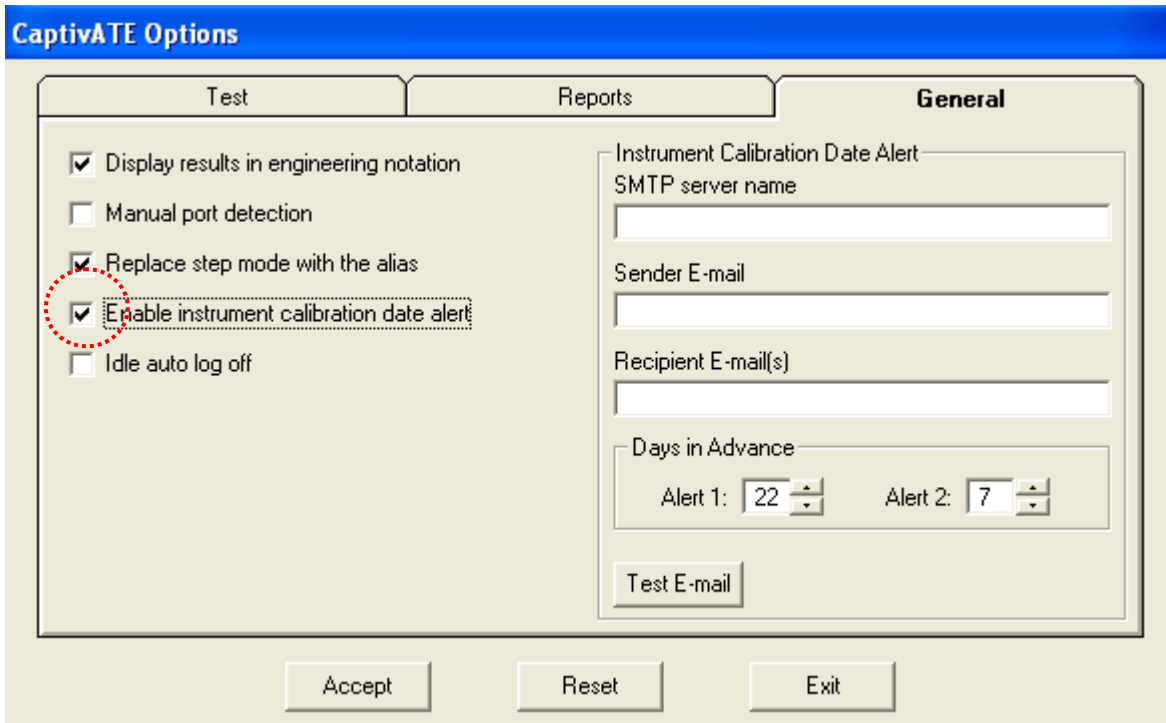

Figure 15 Enable Instrument Calibration Alert
1. Click *Tools/Options/General* to display the screen shown in Figure 15.